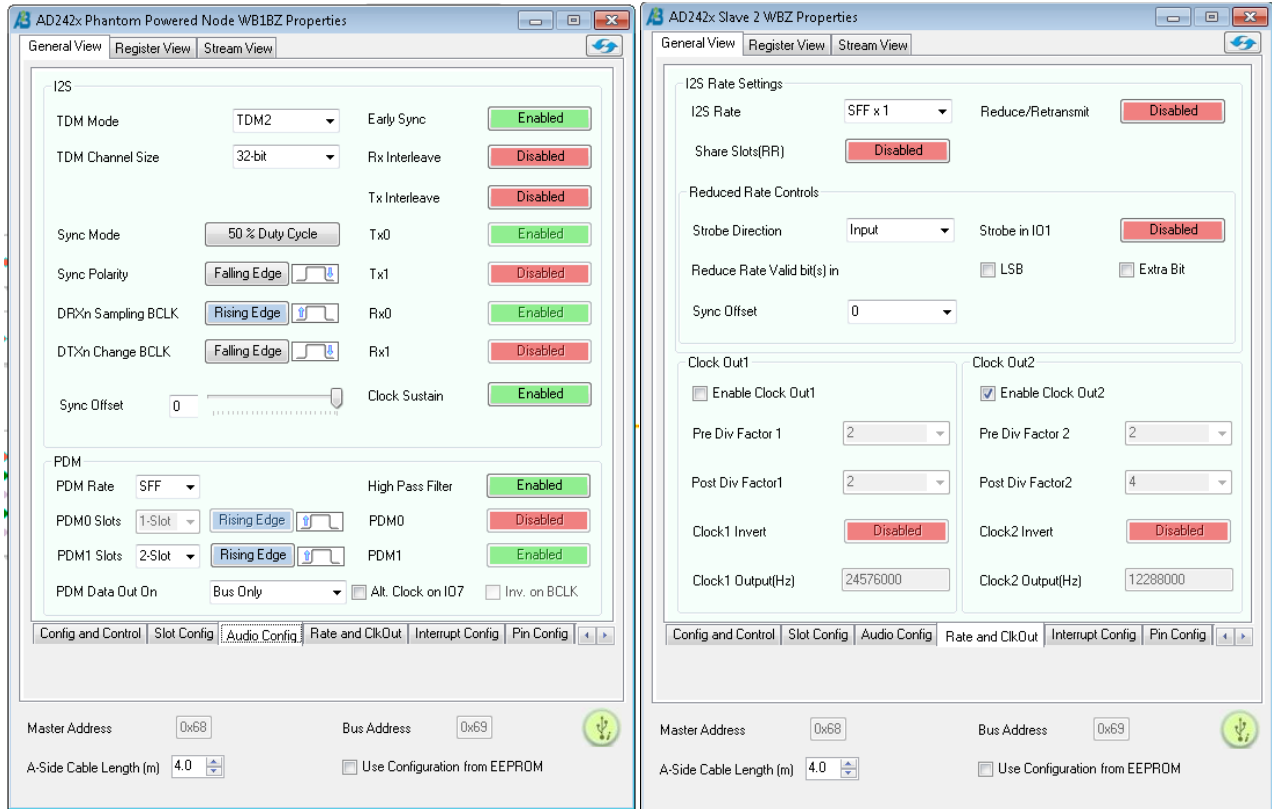

Figure 3. EVAL-AD2428WB1BZ Evaluation Board Example Audio Configuration
- Use the configuration settings shown in Figure 3 to properly interface the codec with the A²B transceiver.